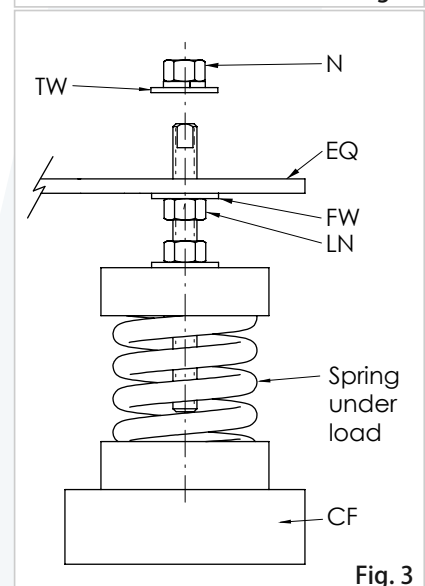

Fig. 3
- 5)** Use a forklift, crane, or any other certified lifting machine to raise the equipment (EQ) to be installed. Slowly lower the equipment (EQ) on top of the isolators' flat washers (FW) and make sure that the equipment's mounting holes are perfectly aligned with the isolators' threaded rods (TR), as shown in figure 3.
- 6)** When the equipment, which must be at the full operating weight, is placed onto the isolator's flat washer (FW), the isolator's spring (S) will be compressed according to the load vs. deflection chart for this model.
- 7)** Level each isolator in sequence by turning the leveling nut (LN) a full clockwise turn at a time, as shown in figure 3.
- 8)** After the leveling is done, run down the lock nut (N) and top washers (TW) to the equipment's base (EQ). Tighten the lock nut (N), thus securing the isolator to the supported equipment (EQ) and locking the leveling nut (LN) against turning, as shown in figure 3.